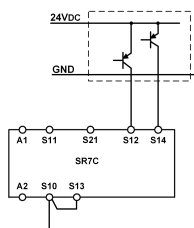

Fig. 8:
- For the applications according Fig. 8 and 9, make sure that the reference potential of the signal generator and the SR7C is the same